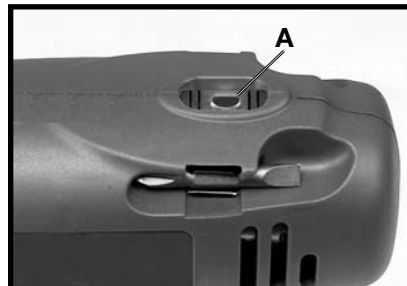

Fig. 9
The Model CL096 is equipped with a horizontal level (A) Fig.9. The level can aid in drilling a horizontal hole.